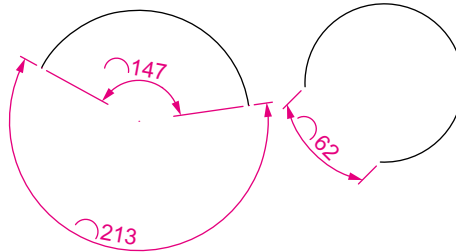

Fig. 6.15 Examples – Arc Length tool
The Arc Length tool (Fig. 6.15)
1. Construct two arcs of different sizes as in Fig. 6.15.
Examples on two arcs are shown in Fig. 6.15.